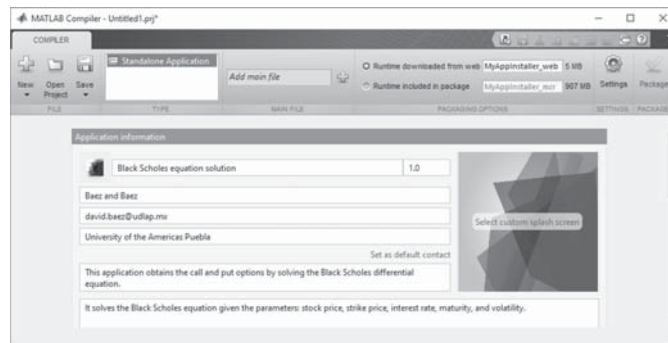
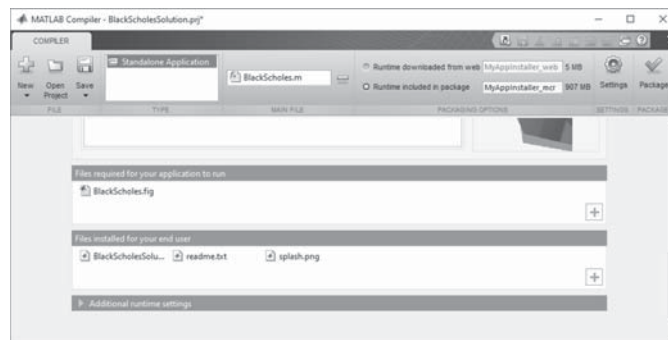

FIGURE 8.14: Deployment tool.
FIGURE 8.15: Loading the files to be deployed.
2. We fill out the information requested such as application name (**BlackScholesSolution**) and additional details about it as shown in Figure 8.14. We save the project as **BlackScholesSolution.prj**. Now we add the files we need in our project by clicking on the plus sign next to the message **Add main file**. We work with the interface developed in Example 8.2. We start the process by adding the m-file **BlackScholes.m**. The file **BlackScholes.fig** and every other file needed are automatically loaded. We also check the radio button to include the **MCR** in the package if the user does not have it already (see Figure 8.15).